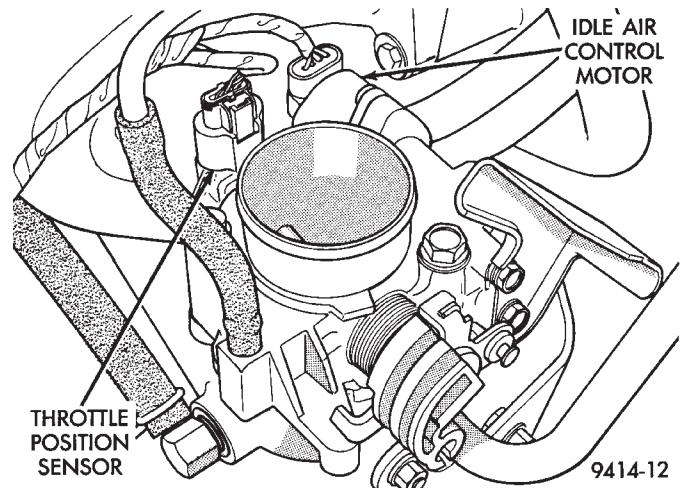
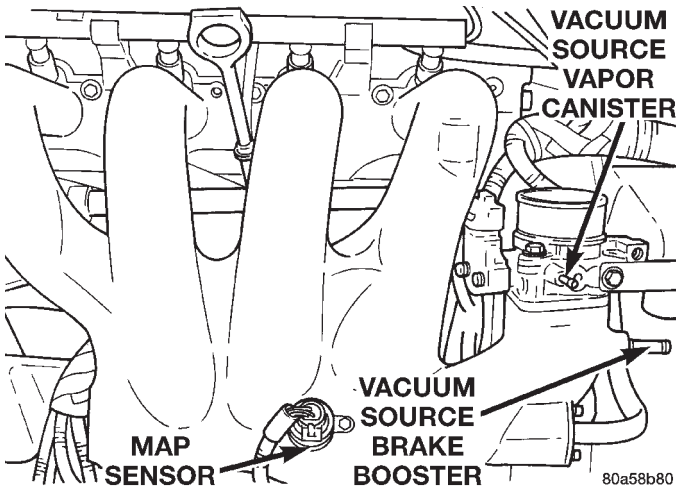
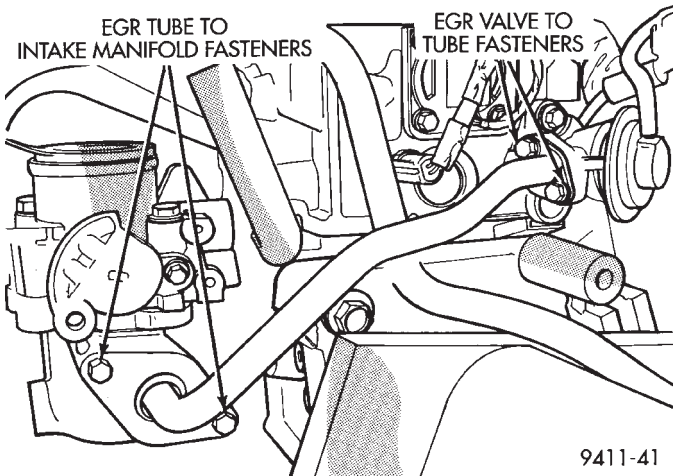

Fig. 23 Idle Air Control (IAC) Motor and Throttle Position Sensor (TPS) Wiring Connectors.
Fig. 25 Manifold Absolute Pressure (MAP), Vapor Canister Hose, and Brake Booster Hose
Fig. 26 Tube Assembly—Typical
(6) Remove throttle and speed control cables from throttle lever and bracket. Refer to Group 14, Fuel System for procedures.
(7) Disconnect idle air control (IAC) motor and throttle position sensor (TPS) wiring connectors (Fig. 23).
(9) Disconnect intake air temperature electrical connector. Disconnect leak detection pump and PCV hoses (Fig. 25).
(10) Remove transaxle to throttle body support bracket fasteners at the throttle body and loosen the fastener at the transaxle end.
(11) Remove EGR tube bolts at the valve and at the intake manifold (Fig. 26). Remove tube from engine and discard gaskets.
(6) Connect Manifold Absolute Pressure (MAP) electrical connector, vapor canister hose, and brake booster hose (Fig. 25).
(7) Connect knock sensor electrical and starter relay connectors. Connect wiring harness to intake manifold tab.
(8) Connect Idle Air Control (IAC) motor and Throttle Position Sensor (TPS) wiring connectors (Fig. 23).
(9) Install throttle and speed control cables to bracket. Connect cables to the throttle lever. Refer to Group 14, Fuel System Throttle Body Installation procedure.
(10) Position new EGR tube gaskets and loosely assemble the EGR tube onto valve and intake manifold (Fig. 26). First tighten tube fasteners at the EGR valve to 11 N·m (95 in. lbs.). Then, tighten the intake manifold side fasteners to 11 N·m (95 in. lbs.).